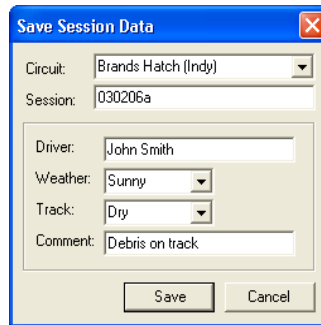

Figure 16 - Save Session Data Dialog
3. When the data has been successfully transferred the Save Session Data dialog (Figure 16) appears. Podium will populate the Session field with a unique identifier for this session based on the current date. Other fields will be set to the values used previously.
3. The data in the chosen dump file is converted into the correct format and the Save Session Data dialog (Figure 16) is displayed when this process is complete.